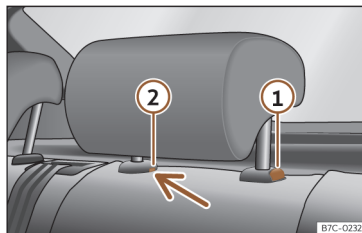

Fig. 103 Rear headrest: removal.
- Press button >>> Fig. 103 ①, while simultaneously pressing on the safety hole ② with a flat screwdriver a maximum of 5 mm wide, and remove the headrest.